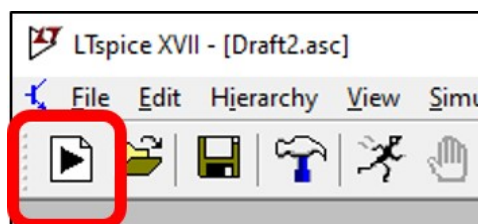

Figure 17: LTspice new schematic button.
- (c) Click on the *New Schematic* icon shown below in Figure 17: